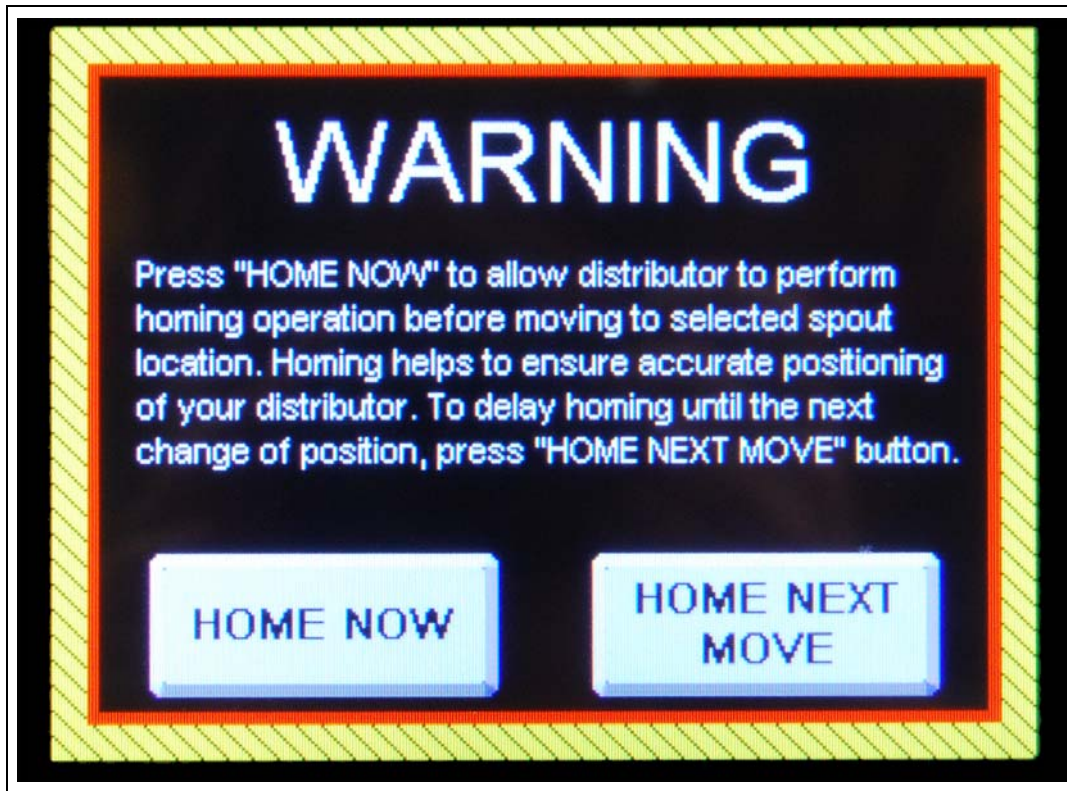

Figure 4S Homing Warning
To help ensure accurate positioning of the distributor a homing warning will display when the number of times the distributor is re-positioned is equal to the homing interval. This message will occur every time that a spout move is attempted until the homing procedure is completed. The user will be given two (2) options: “Home Now” and “Home Next Move”. (See Figure 4S.)